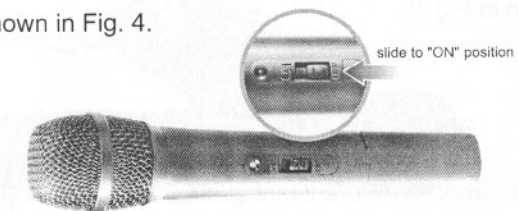

Fig. 4
4. After putting the battery cover back to the housing, slides the switch to "ON" position as shown in Fig. 4.